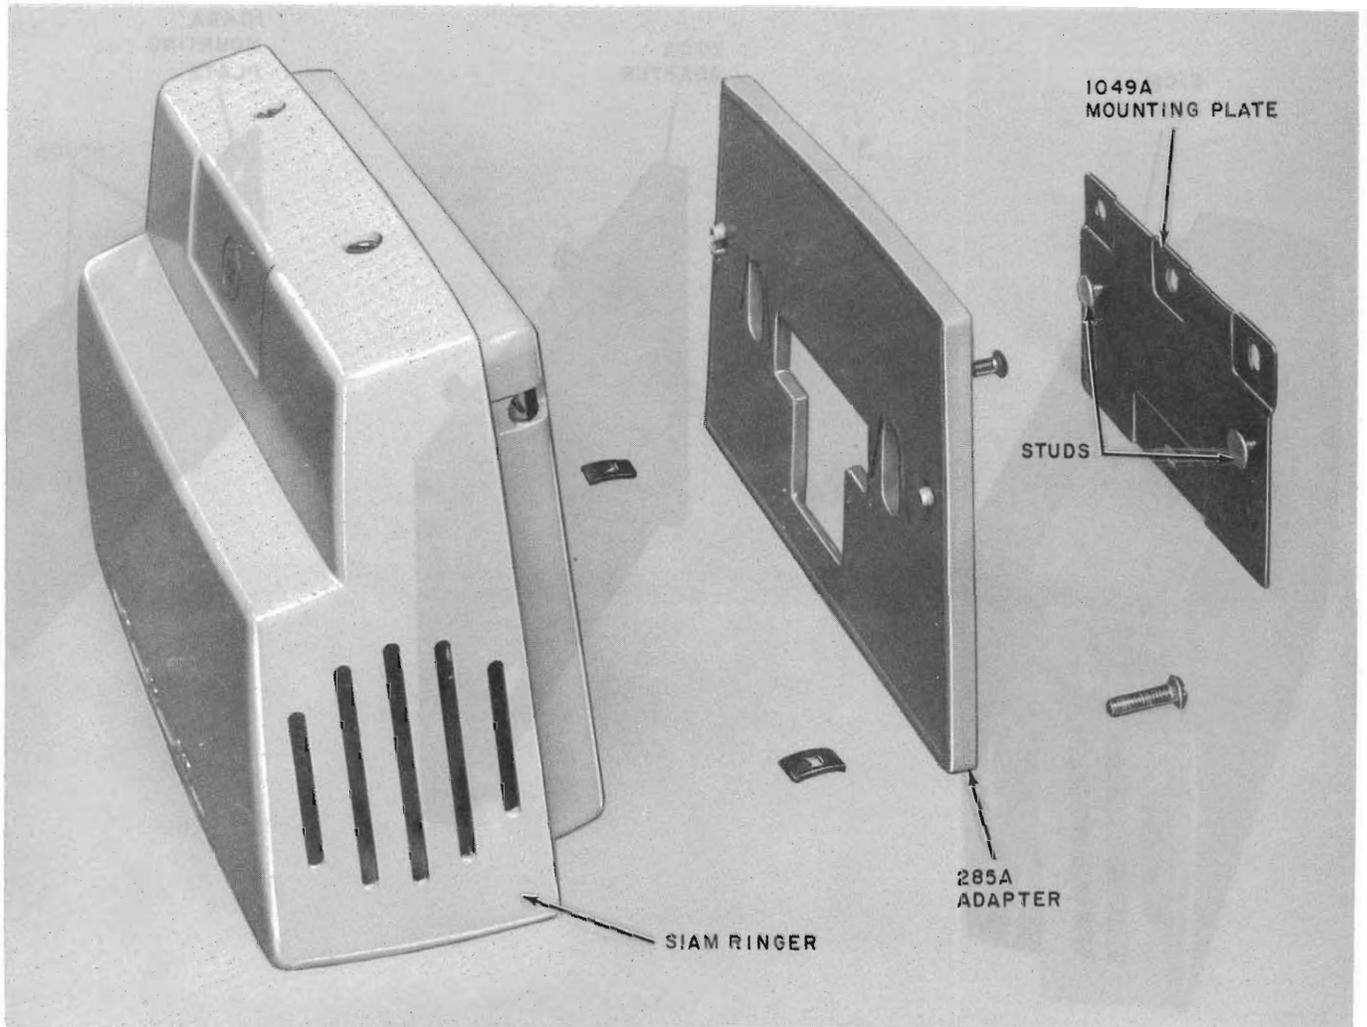

Fig. 10—SIAM (Modular) Tone Ringer, 285A Adapter, and 1049A Mounting Plate
- 2.03 The 285A adapter (Fig. 10) is used in conjunction with the 1049A mounting plate to make the SIAM (modular) tone ringer portable.
3.04 Fig. 10 shows a 285A adapter and a 1049A mounting plate with an associated S1AM (modular) tone ringer. A 1049A mounting plate is required for each portable location.